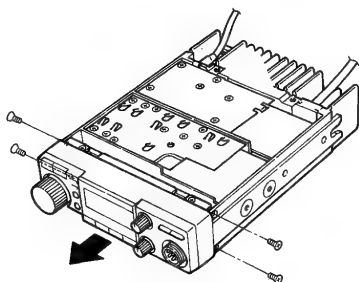

Fig. 2
- 2) Remove 4 screws from the left and right sides of the front panel. (Fig. 2)
- 3) Remove the front panel. (Fig. 2)